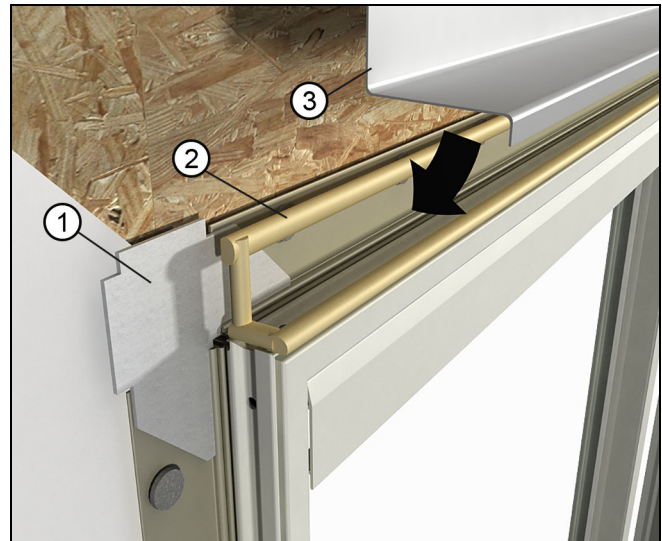

Figure 55
**2. Required on wood units/optional on clad units:** Install a rigid head flash at the head jamb. Be sure to apply a bead of sealant along the back sides of both vertical and horizontal surfaces of the cap that come in contact with the door, door casing, and/or sheathing. When an integral vinyl drip cap is installed, cut the vinyl drip off before using a rigid head flash. See Figure 55.